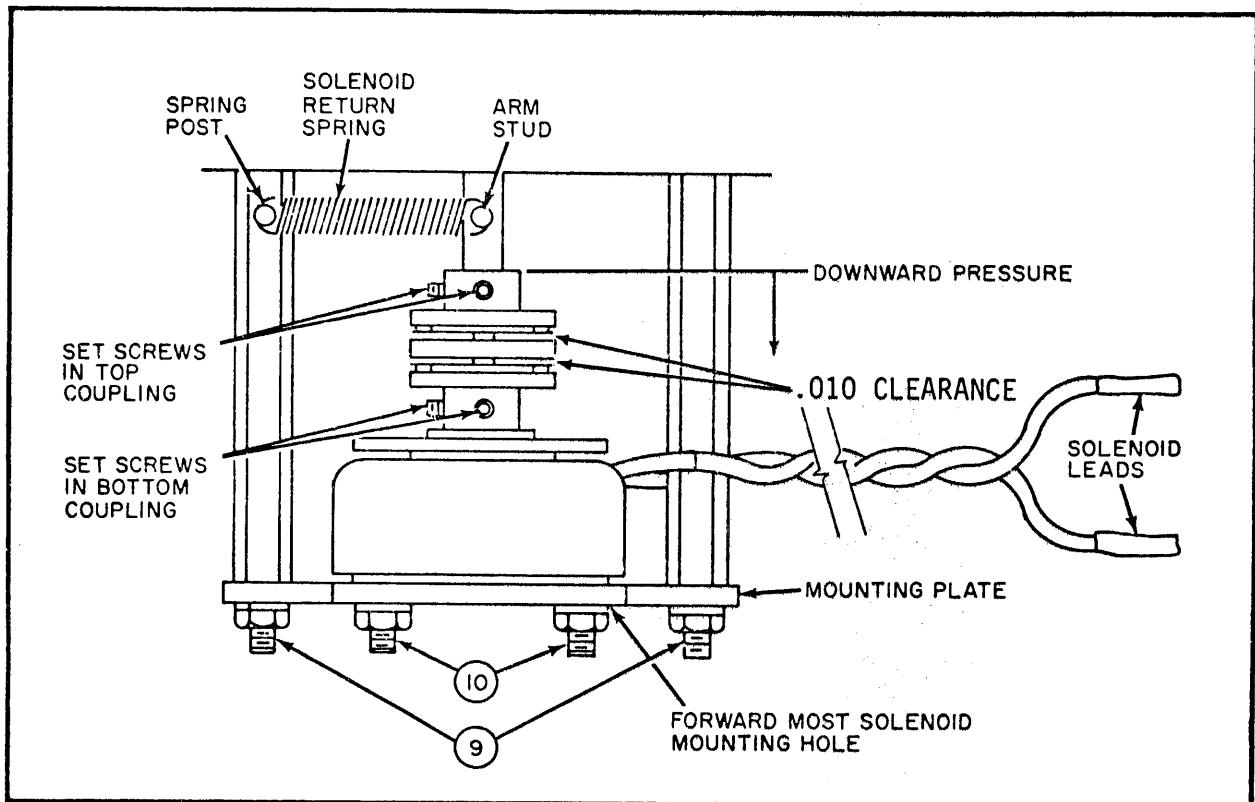

Figure 9-8. Pictorial, Solenoid Assembly
- b. Unsolder the two white leads from the solenoid driver circuit board, figure 9-8.
- c. Remove solenoid return spring from spring post and arm stud, figure 9-8.
- d. Using a 1/16 Allen wrench, LOOSEN two set screws in the top solenoid coupling, figure 9-8.
- e. Using a 9/64 Allen wrench, remove two 8 x 32 socket head screws (9) holding solenoid mounting plate, figure 9-8.
- g. Using an 11/32 wrench, remove two 8 x 32 mounting nuts (10) , figure 9-8.
- h. Using a 1/16 Allen wrench, LOOSEN two set screws retaining the coupling on the solenoid shaft. Remove coupling, figure 9-8.
- k. Tighten the bottom coupling set screws and replace the solenoid on the mounting plate making sure holes are in the proper position, with wires extending from the right side, figure 9-8.
- m. Replace the solenoid return spring between the spring post and the arm stud, figure 9-8.
circuit board, figure 9-8.
- k. Remove solenoid return spring, figure 9-8.
- l. Using a 1/16 Allen wrench, LOOSEN two top solenoid coupling set screws, figure 9-8.
- m. Using a 9/64 Allen wrench, remove two socket head screws (9) holding solenoid assembly, figure 9-8. Lay solenoid assembly on baseplate.